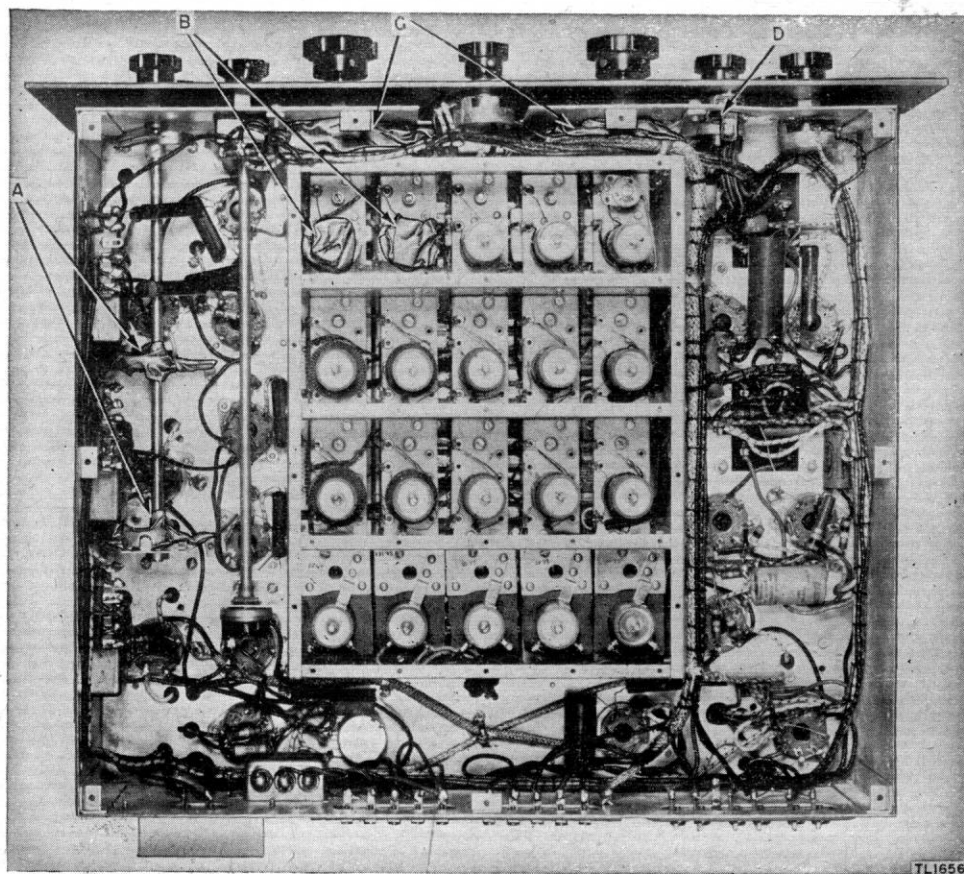

Figure 21. Radio Receiver BC-1004-C, bottom view of chassis, showing masking.
- (4) Cams and levers on bandwidth selector-mechanism shaft (A, fig. 21).
- (5) Capacitors in alignment-adjustment section (B, fig. 21).
- (6) Friction drive wheels of main tuning and band spread selecting mechanism (C, fig. 21).
- (7) Phone jack (D, fig. 21).
e. DRYING. (1) Place equipment in an oven or under heat lamps and dry for 2 or 3 hours at 160° F.